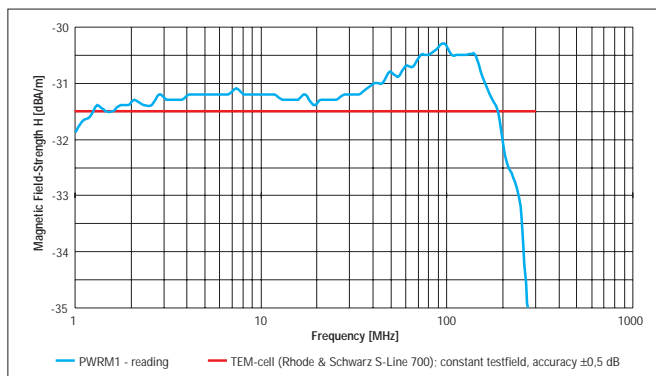

Figure 1: HFS1 Reference-Probe + PWRM1 combination:
- 1 Ref. Fig.1: Over-all-frequency-response in combination with power-level-meter PWRM1
- 3 Measurements can be evaluated more exactly, if the over-all-frequency-response Fig.1 is taken into account.